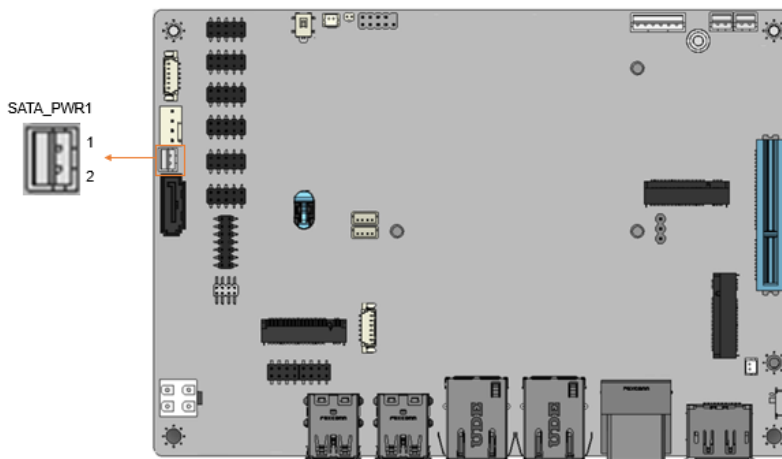

Figure 3-22: SATA Power Connector Location
- CN Location:** See **Figure 3-22**